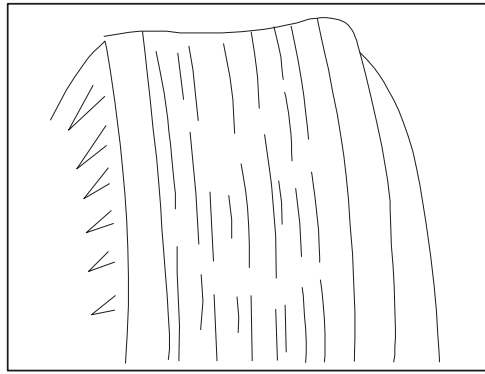

Figure 4-75 Early Wear in the Middle of Tread
(1) Failure symptom: Early wear in the middle of tread, as shown in Figure 4-75.